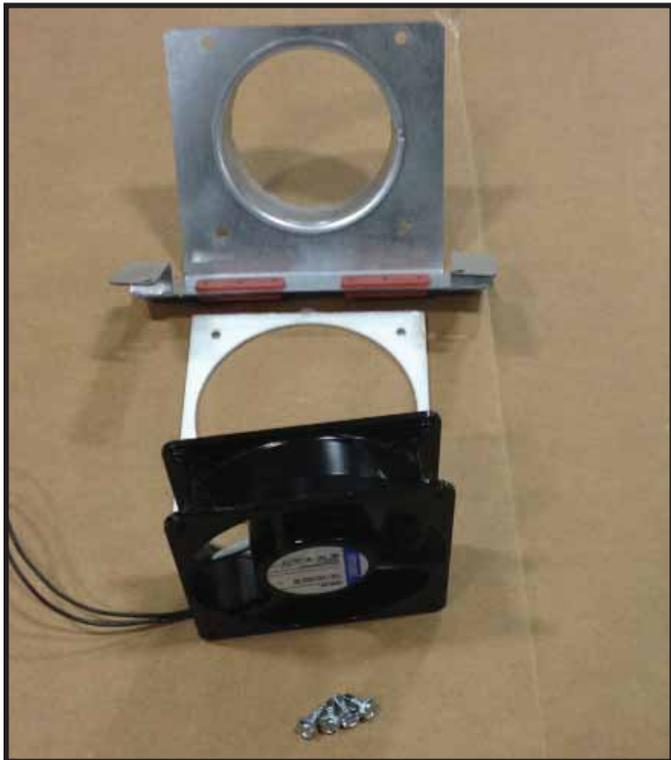

Figure 8.19 Blower, Gasket Mounting Bracket, and Hardware
8. Remove mounting bracket from blower by removing the four screws that hold the blower to the bracket. They are located on one side of the bracket. Save the gasket for use with the new blower. See Figure 8.18 and Figure 8.19.